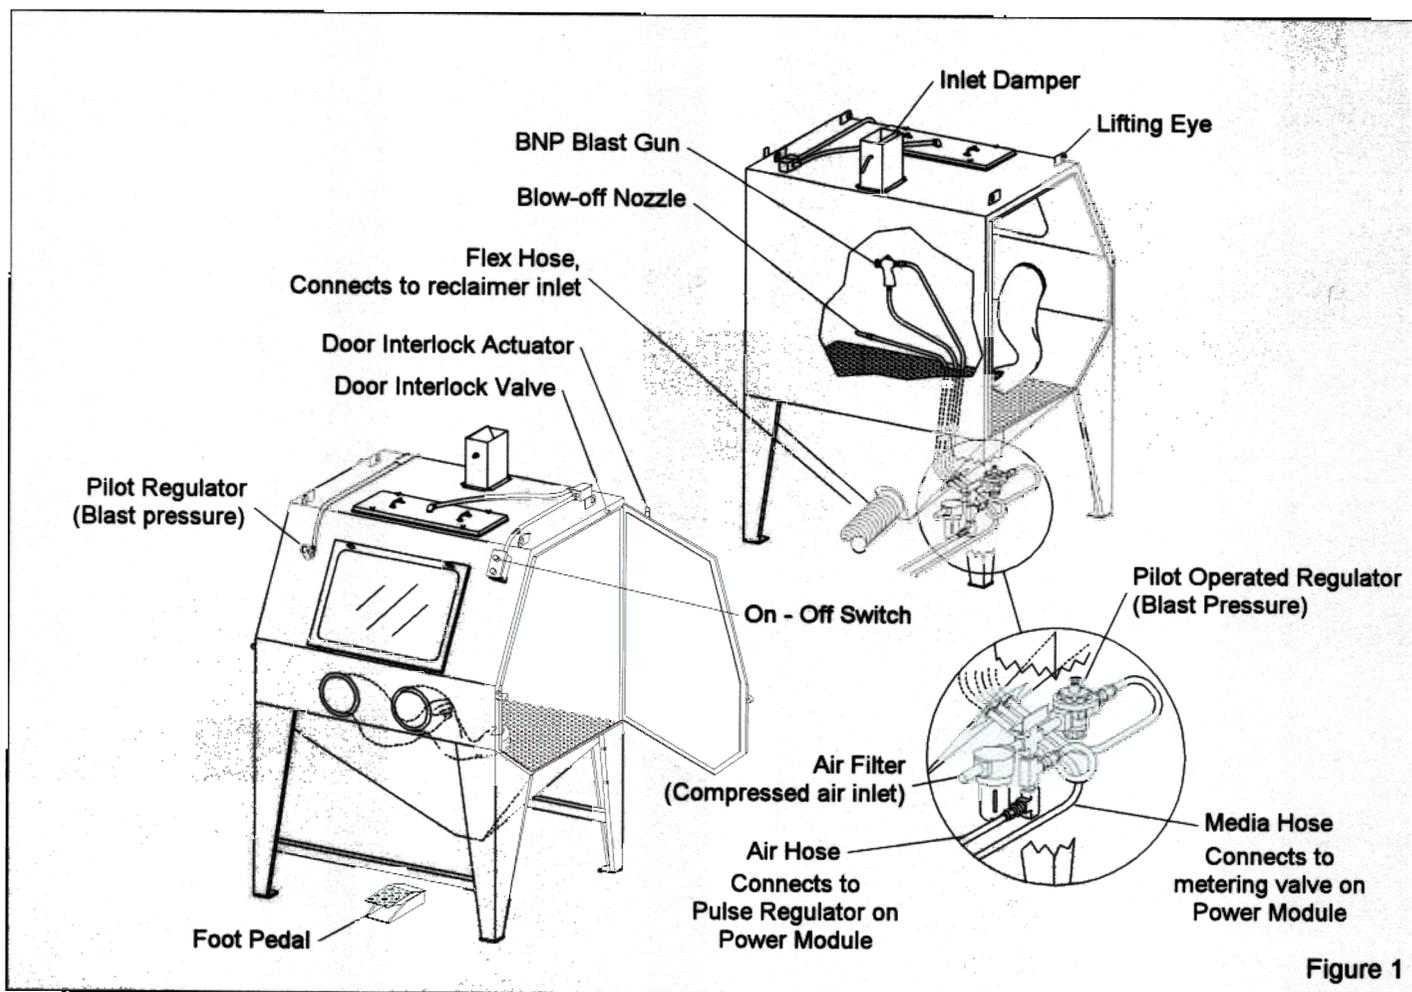
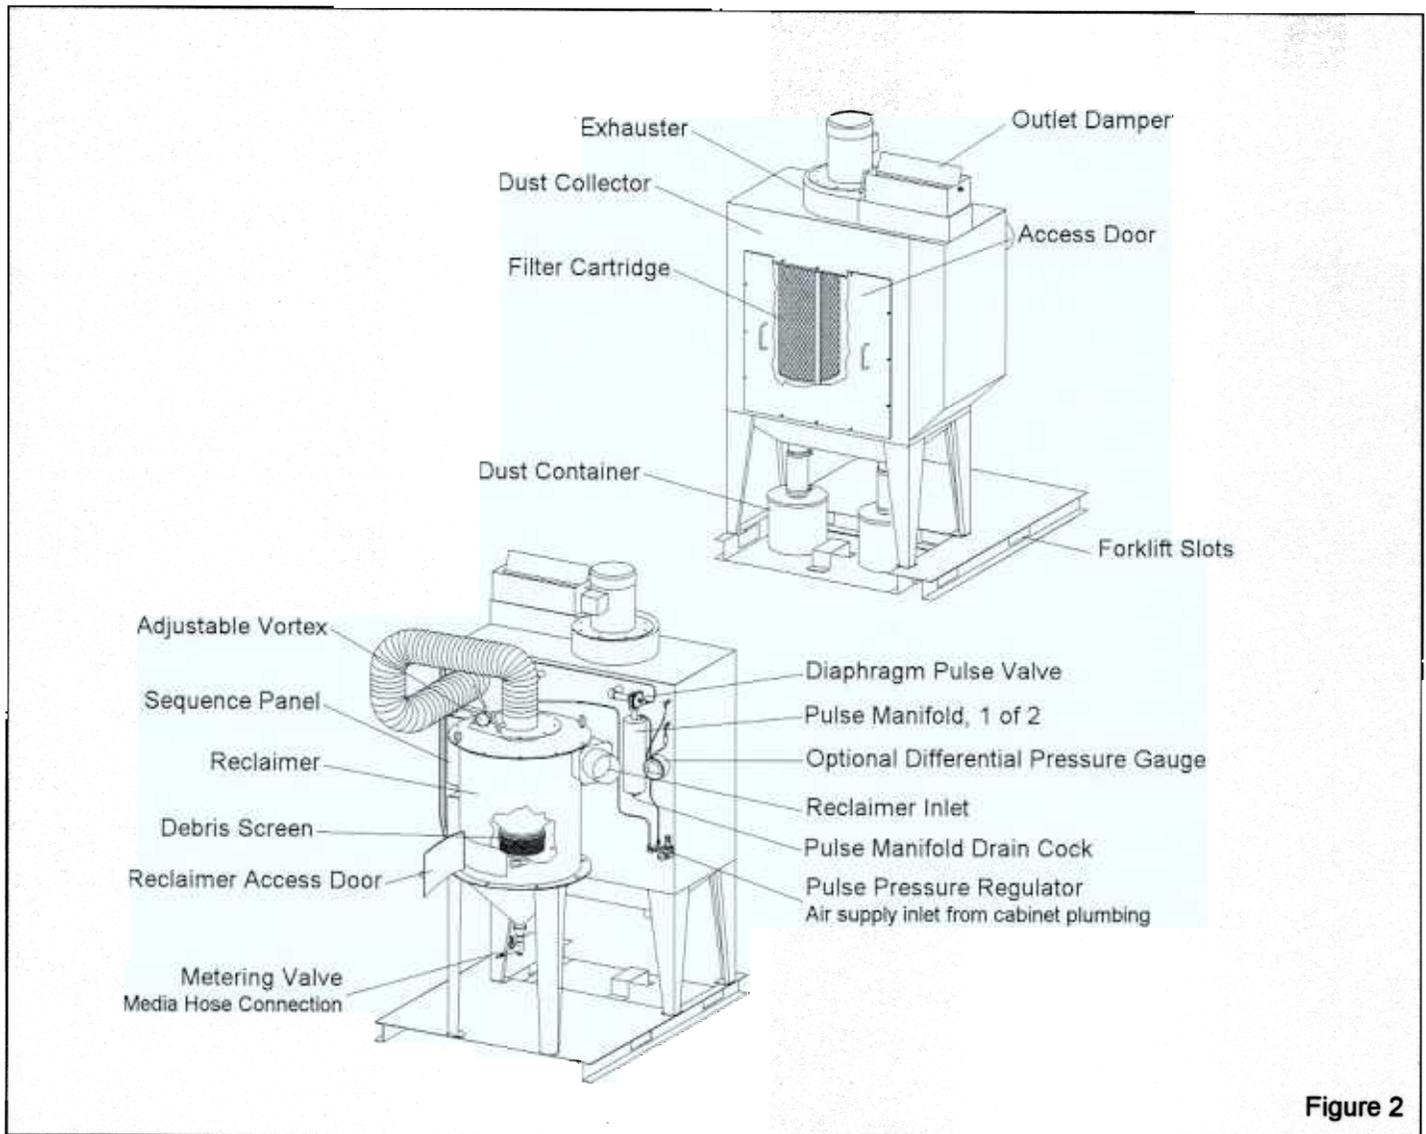

Figure 1
Figure 2
See Figure 1 for components of the cabinet enclosure, and Figure 2 for arrangement and components of the power module.
**2.8.1** Connect the air hose from the piping assembly under the cabinet to the dust collector pulse pressure regulator. refer to Figures 1 and 2.